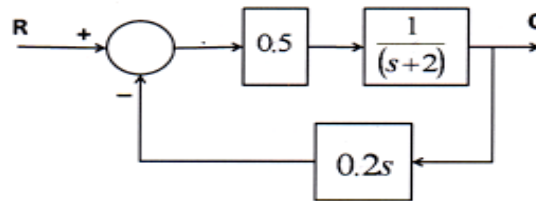

Figure 1
- b) From the block diagram in Figure 1, determine the transfer function: C/R. [4]